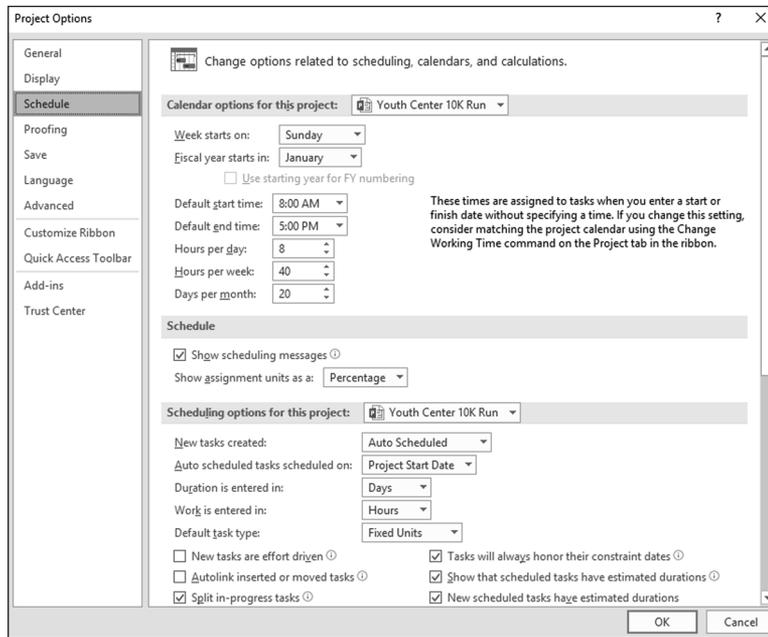

FIGURE 8-1: Define the typical working day, week, month, and year.
- 2. Click the Schedule category on the left side of the Project Options dialog box, as shown in Figure 8-1.**